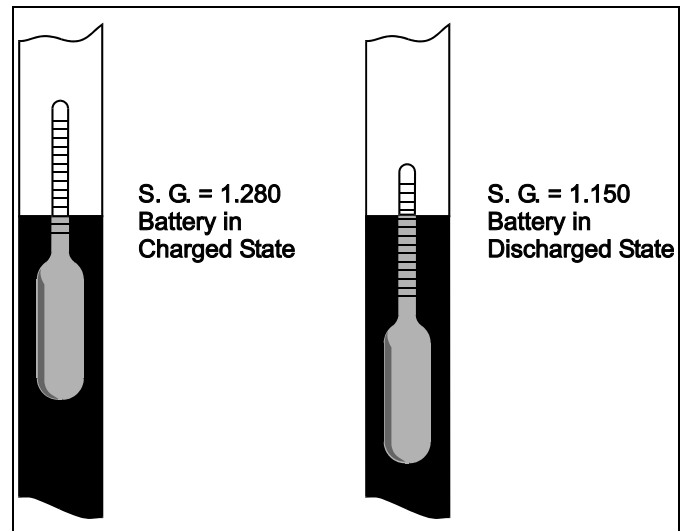
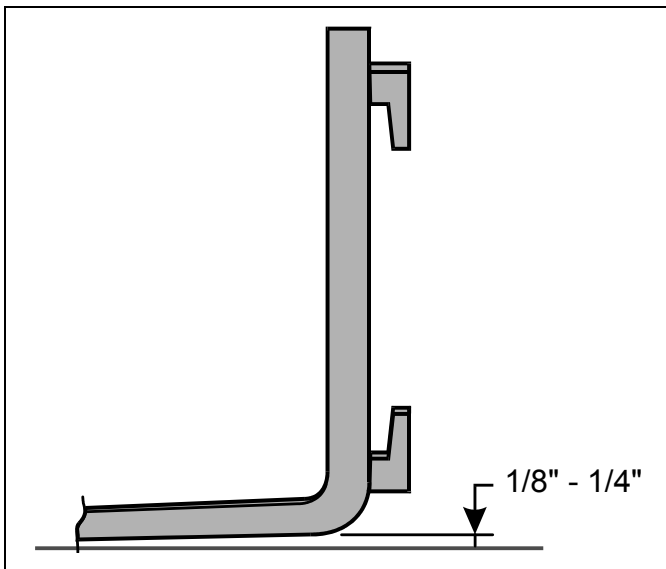

Figure 2-6: Hydrometer
Figure 2-7: Fork Heel to Floor
4. Measure the distance from the floor to the bottom heel of each fork tine. See Figure 2-6 This measurement must be 1/8" (3.175 mm) minimum to 1/4" (6.35 mm) maximum. See Figure 2-7 for reference.